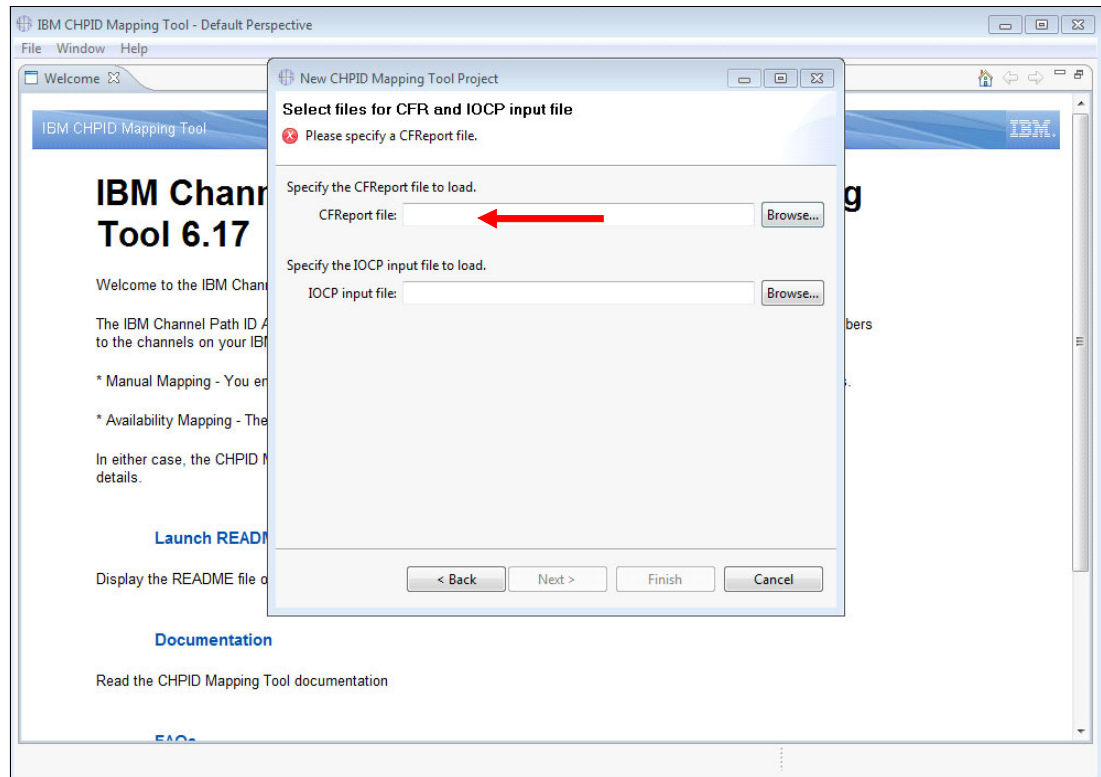

Figure 5-7 Selecting the CFReport file
3. Select the configuration file (.CFR) file of our z13 server. Figure 5-7 shows where the file name is entered. Then, we select **Finish**.